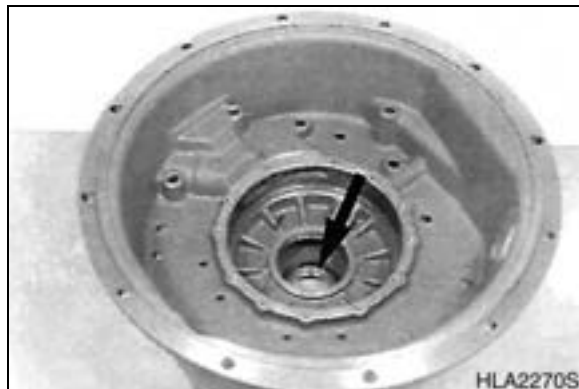

Figure 320
1. Insert outer bearing race into housing bore until seated and install bearing race, see Figure 320.